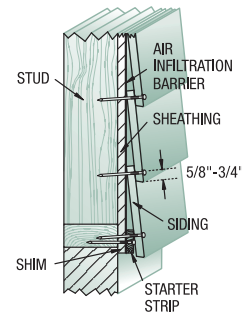

FIG. 4
- Although not recommended, where 24" o.c. vertical framing is used, wood-based sheathing is required. Follow product specific nailing pattern (see Fig 4) and nail to framing 24 o.c. with intermediate nailing 12 o.c. to sheathing.